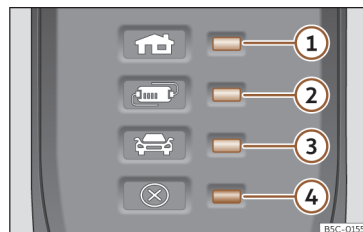

Fig. 66 On the charging cable for power sockets: Control lamps on the protection device.
>>> **Fig. 66:**
The electronic protection device >>> **Fig. 66** ensures that the charging connector does not receive current until it is plugged in to the vehicle's charging connector.
One or more control lamps >>> **Fig. 66** ①, ② or ③ light up green.
Display >>> Fig. 66	Meaning
①, ④ flashing	The housing connector has overheated.
②, ④ flashing	The protection device has overheated.
If the charging process continues with a lower current, both the operating indicator and the warning lamp >>> **Fig. 66** ④ flash red.
- If it disconnects again, or the charging current reduces and the cause does not seem to be exposure to an external heat source, make sure that the green control lamp is flashing >>> **Fig. 66**. Visit a specialised CUPRA dealer or any SEAT network dealer to check the charging cable. Get an establishment that specialises in electrical installations to check the infrastructure connection.
If the red warning light ④ flashes or turns on without one of the control lamps >>> **Fig. 66** ①, ② or ③ also turning on continuously on the status indicator, there is a fault.